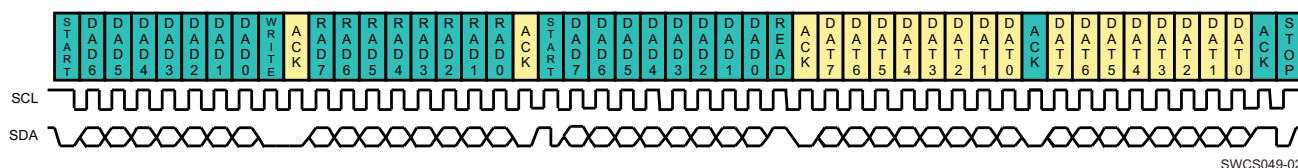

Figure 25. I²C Read Access Multiple Bytes
- A fourth byte, representing the content of the internal registers, starting at the base address and next consecutive ones (see Figure 25).